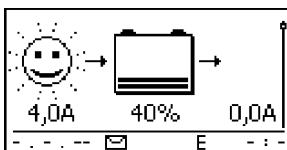
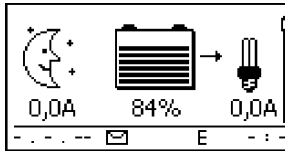

Fig. 7: Display with sunshine after connecting the solar module
Fig. 8: Display without sunshine after connecting the solar module
3. Remove covers from the solar module and, if present, switch on the DC load circuit breaker. The display shows Fig. 7 or Fig. 8.
4. If Fig. 7/ Fig. 8 is not displayed then check the installation and if necessary correct the error using ☞ 15, p. 126 et seqq.